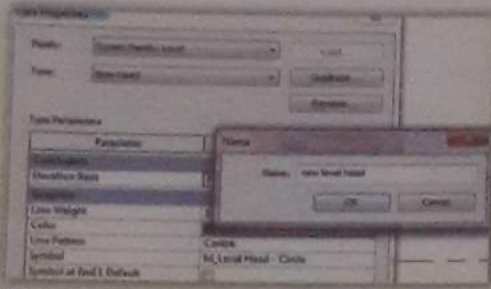

Figure 24: Duplicating level head
5. Select the level tool; go to its type properties » Click Duplicate » Enter a name » *new level head* » Click OK. (Figure 24).